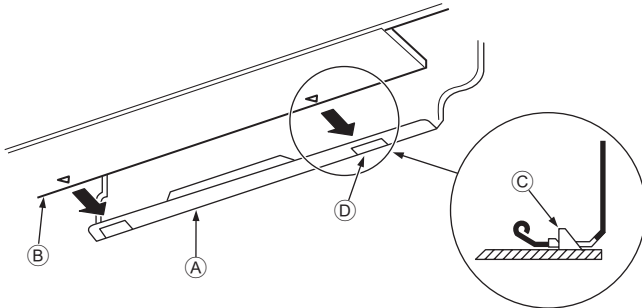

Fig. 3-16
3. While inserting the refrigerant piping and drain hose into the wall penetration hole (penetration sleeve), hang the top of the indoor unit to the mount board ①.
5. Fasten by pushing the bottom part of the indoor unit onto the mount board ①. (Fig. 3-16)
- \* Check that the knobs on the bottom of the indoor unit are securely hooked into the mount board ①.
- ① Mount board
- ② Indoor unit
- ③ Hook
- ④ Square hole